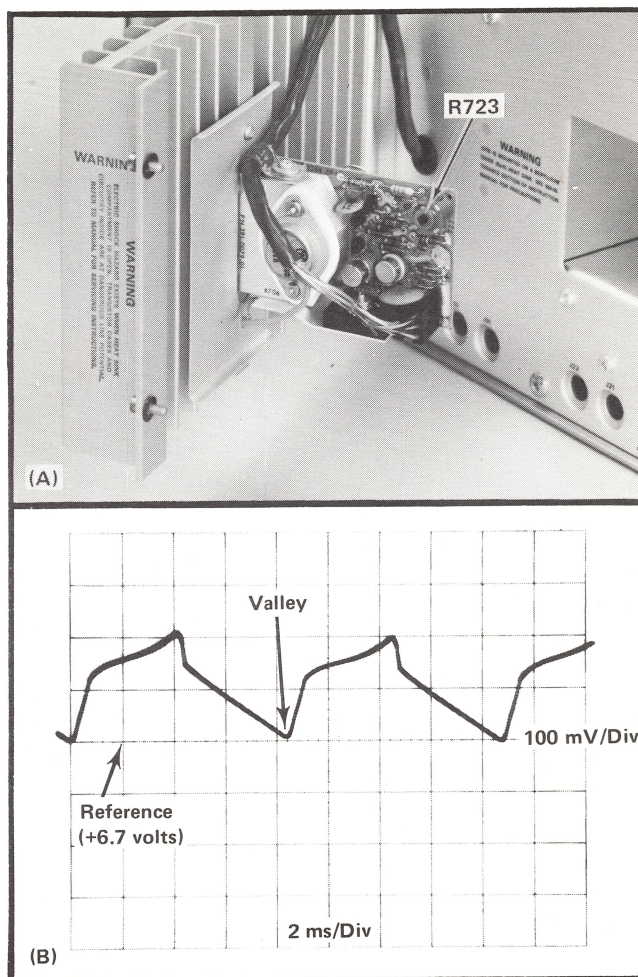

Fig. 5-2. (A) Location of R723 (B) Typical waveform showing correct setting of R723.
e. ADJUST—R723 (mounted on regulator board on heat sink gate) to set the waveform valley to graticule center. See Fig. 5-2.